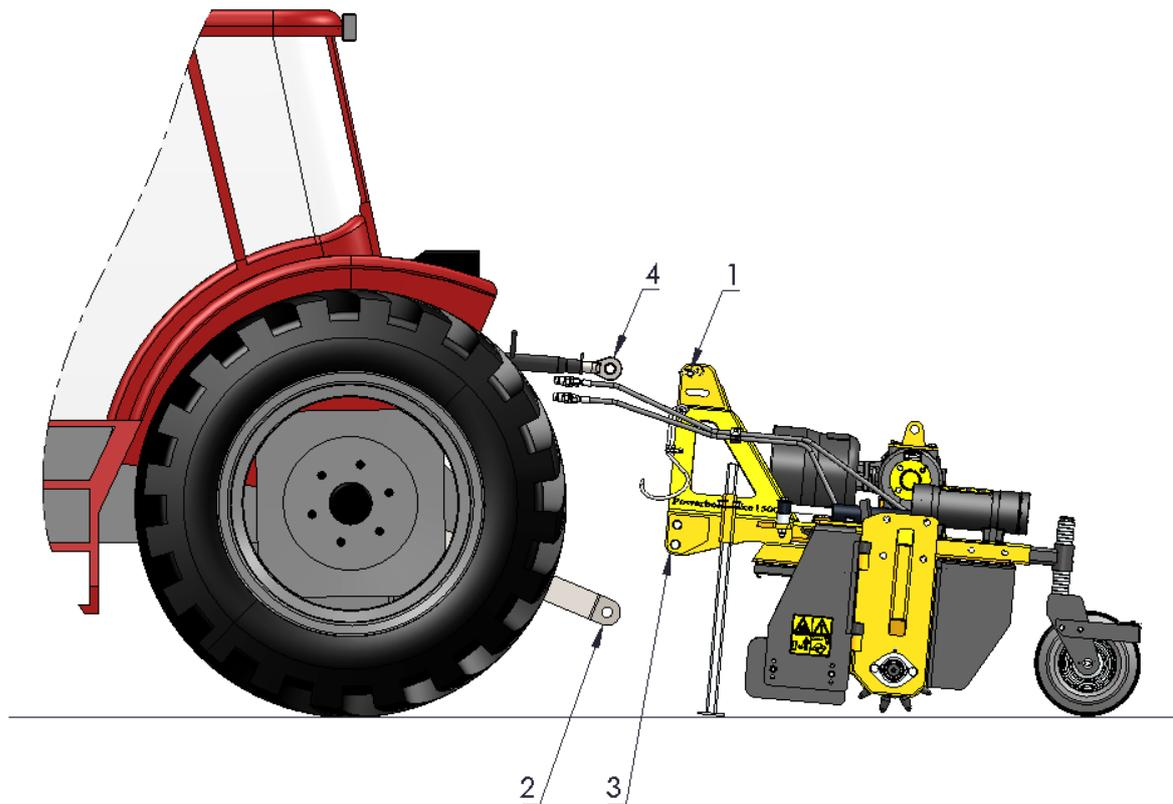

Figure 2
1. Remove **the 3-point pins (1)** at the top from the machine (see **Figure 2**).
The machine should be detached in the following manner (see **Figure 2**):